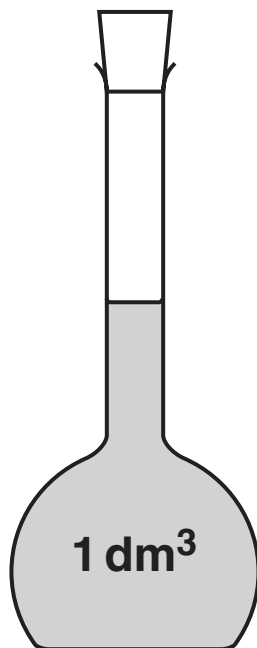

Fig. 2.2
- (j) The most common method for finding the percentage of lead in paint is by using atomic absorption spectroscopy. You are given 3.67 g of lead acetate crystals, a supply of distilled water and a volumetric (graduated) flask of capacity 1 dm3, as shown in Fig. 2.2.